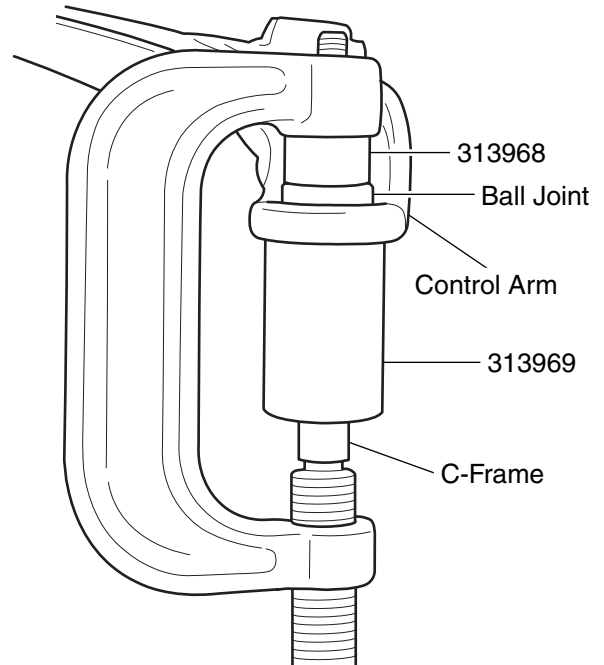

Figure 1. Ball Joint Removal
3. Position 313969 and the C-Frame as shown in Figure 1.